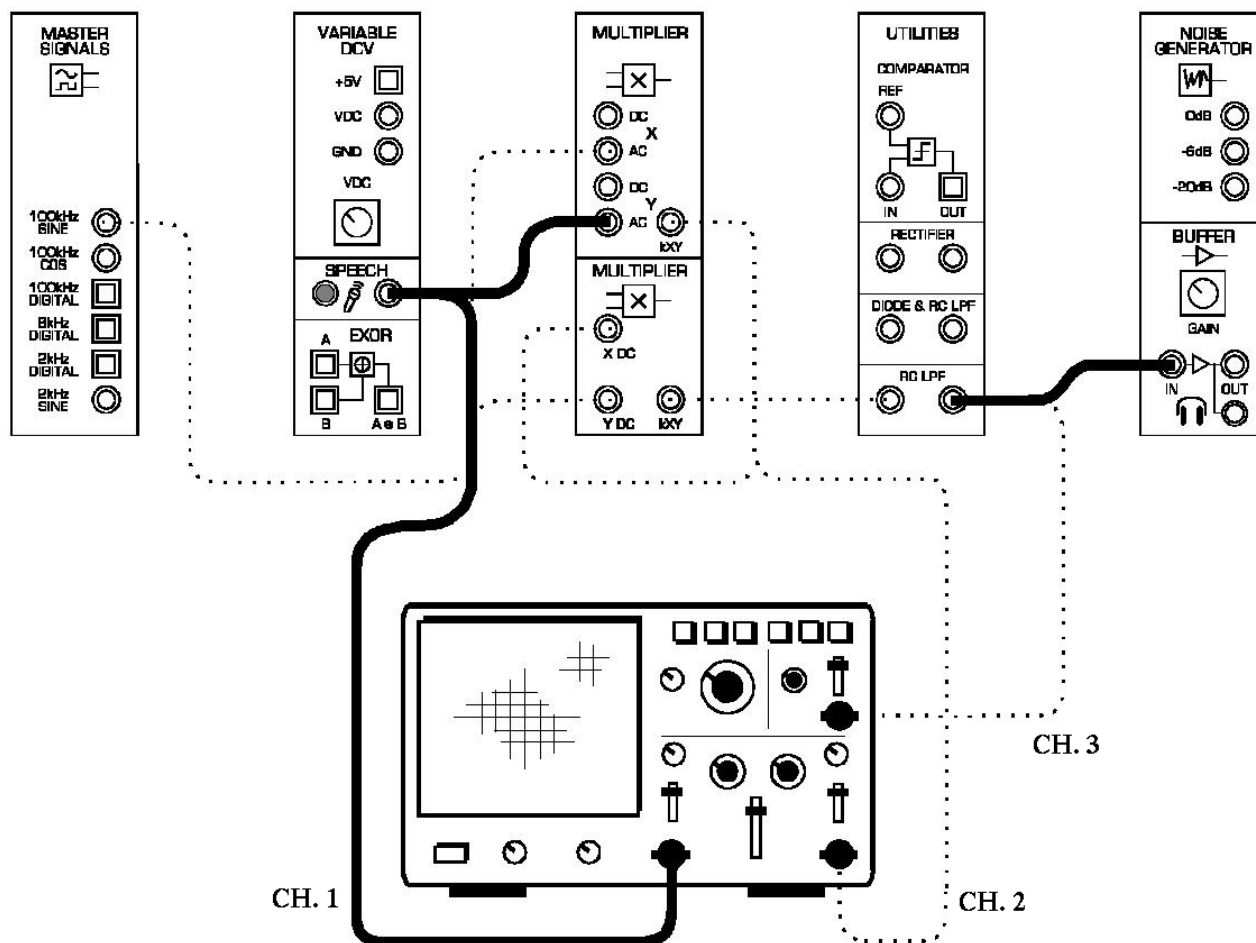

Figure 10:
1. Modify the setup as shown in Figure 10.